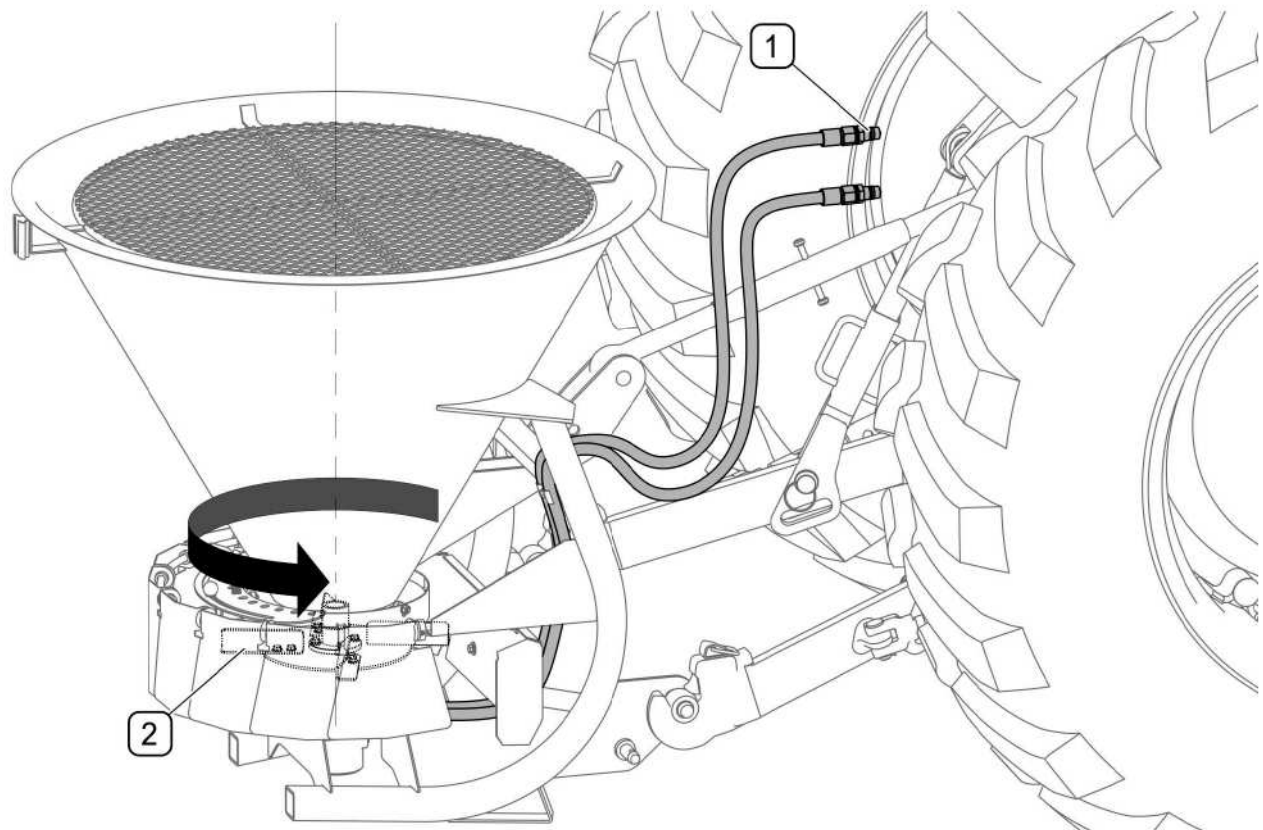

FIG. 4.2 Connecting hydraulic system to tractor
In the sand spreaders with hydraulic drive system hydraulic conduit connectors (1) should be connected to the sockets of a single section of the tractor's external hydraulic system (FIG. 4.2). When the drive system is switched on the spreading disc (2) should rotate counterclockwise. If the spreading disc rotates in the wrong direction, swap the hydraulic conduit connectors.